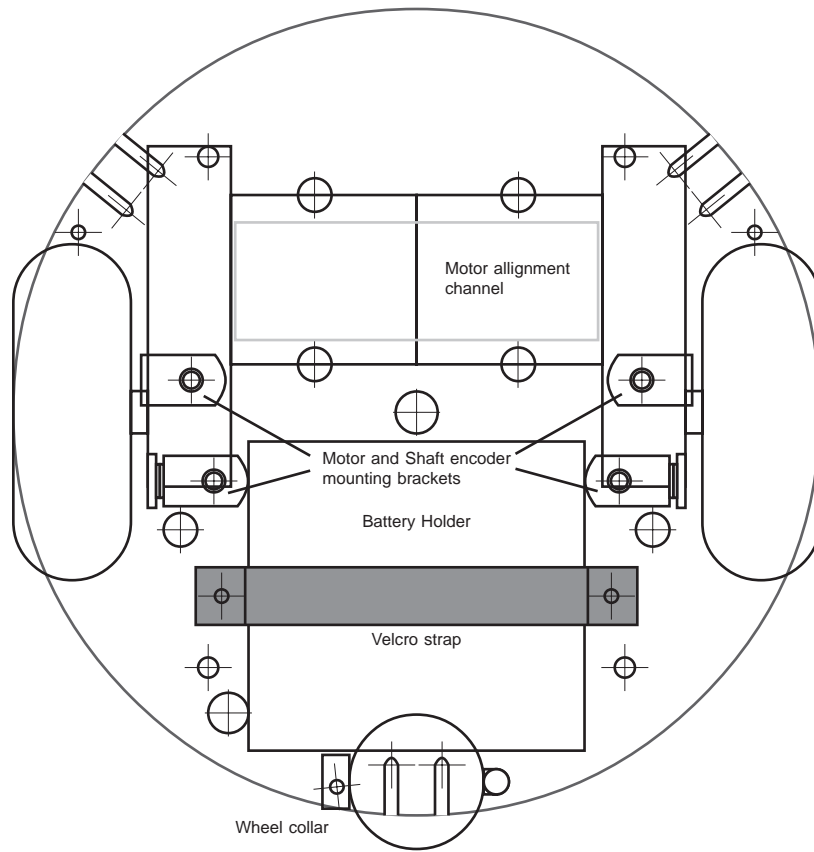

Figure 4.10: Vertical view of the assembly.
- Attach the Velcro strips to the underside of the chassis with 4-40 screws, washers, and nuts. Orient the Velcro with one side up, one side down, so that the pieces can be stuck together to hold the battery holders in place. See Figure 4.10.